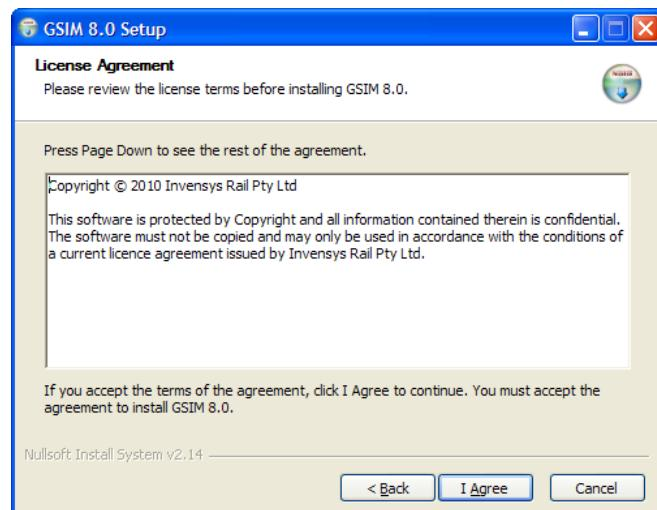

Figure 6.5 License Agreement screen
- k) Read the terms of the License Agreement (figure 6.5). If you accept them, click **I Agree**.